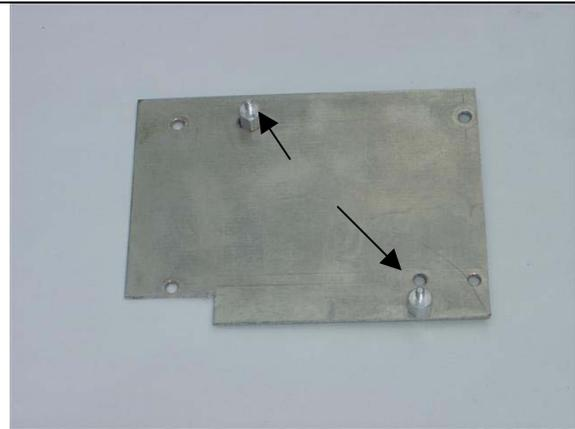

Figure 7 – Aluminum spacer installation in transverter mounting plate
5. Install the two 1/4 inch aluminum spacers on the aluminum mounting plate in the two locations in Figure 7 with 4-40 the screws provided.